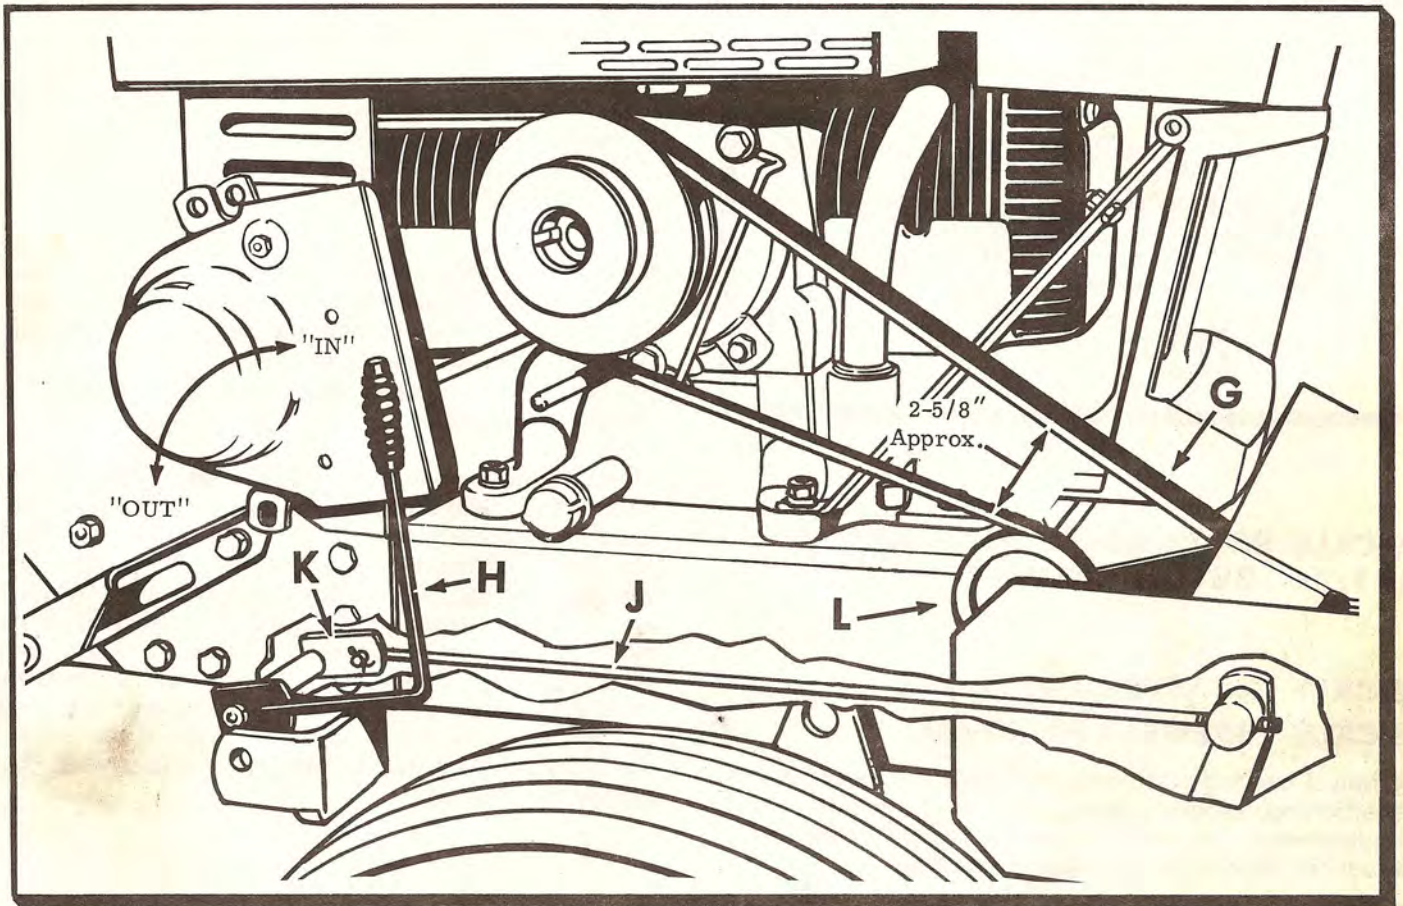

Fig. 18
## SICKLE BAR MOWER CLUTCHING V-BELT - FIG. 18
The sickle mower clutching V-belt (G) transmits power from the tractor engine to the sickle bar gearbox. The tractor attachment clutch lever (H) is connected to the gearbox by rod (J). With the attachment clutch lever engaged or in the "In" position, the inside distance between the belt above idler pulley (L) should be approximately 2-5/8" as shown in Figure 18
To increase tension on V-belt (G), remove hair pin from end of rod (J), disconnect rod from clutch attachment strap (K), and rotate the rod one complete revolution counterclockwise. Re-attach rod to tractor attachment clutch lever (H) and insert hair cotter pin. Repeat if necessary until there is a 2 5/8" distance as shown in Fig. 18
NOTE: It is important that the clutch rod (J) be reconnected as shown in Fig. 18.